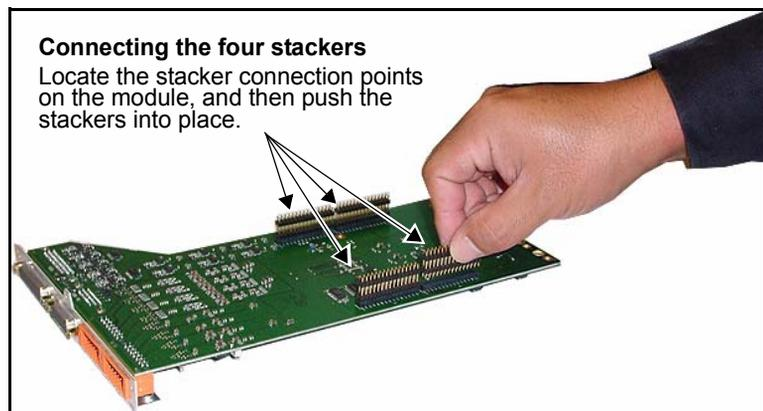

Figure C-4. Connecting Four Stackers to Module
4. Turn the module upside down and insert the four stackers into the corresponding connectors on the board (Figure C-4).